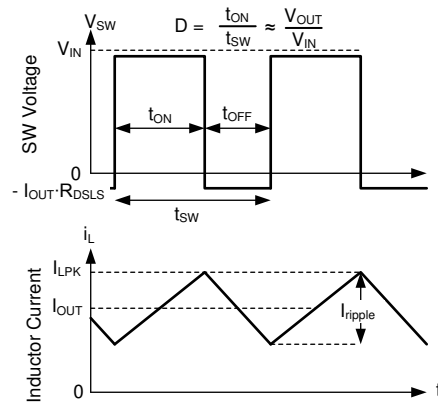

图 8-21. SW Voltage and Inductor Current Waveforms in Continuous Conduction Mode (CCM)
The following operating description of the LM62435-Q1 refers to セクション 8.2 and to the waveforms in 図 8-21. In CCM, the LM62435-Q1 supplies a regulated output voltage by turning on the internal high-side (HS) and low-side (LS) NMOS switches with varying duty cycle (D). During the HS switch on-time, the SW pin voltage, V_{SW} , swings up to approximately V_{IN} , and the inductor current, i_L , increases with a linear slope. The HS switch is turned off by the control logic. During the HS switch off-time, t_{OFF} , the LS switch is turned on. Inductor current discharges through the LS switch, which forces the V_{SW} to swing below ground by the voltage drop across the LS switch. The converter loop adjusts the duty cycle to maintain a constant output voltage. D is defined by the on-time of the HS switch over the switching period: